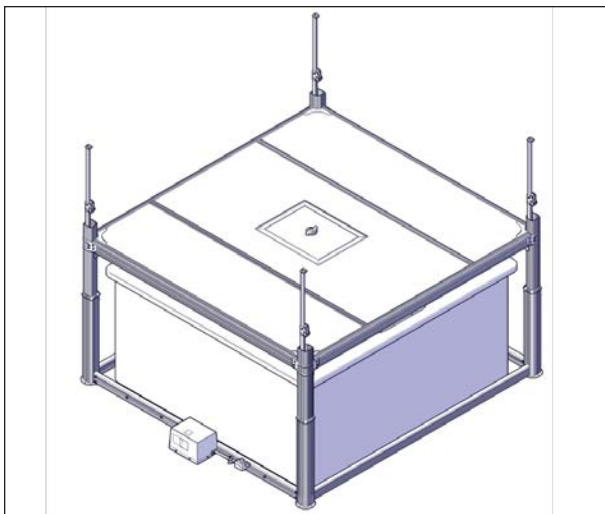

FIGURE 89: JACKS RAISING
7. Raise the jacks until they reach the maximum height see Figure 89.